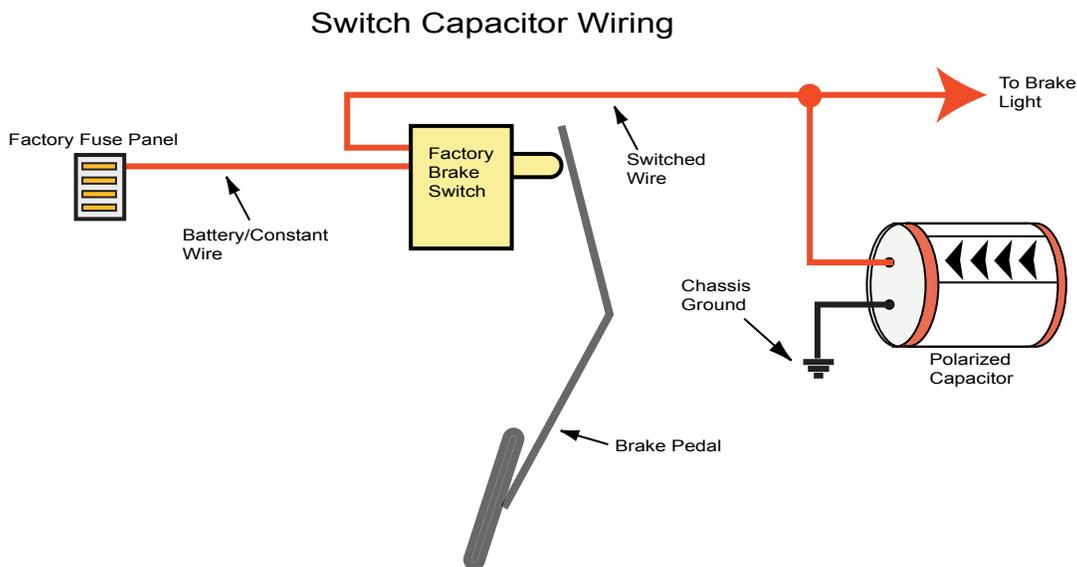

Figure 8
- Attach the + lead of the capacitor to the Switched Wire. (See Figure 8)